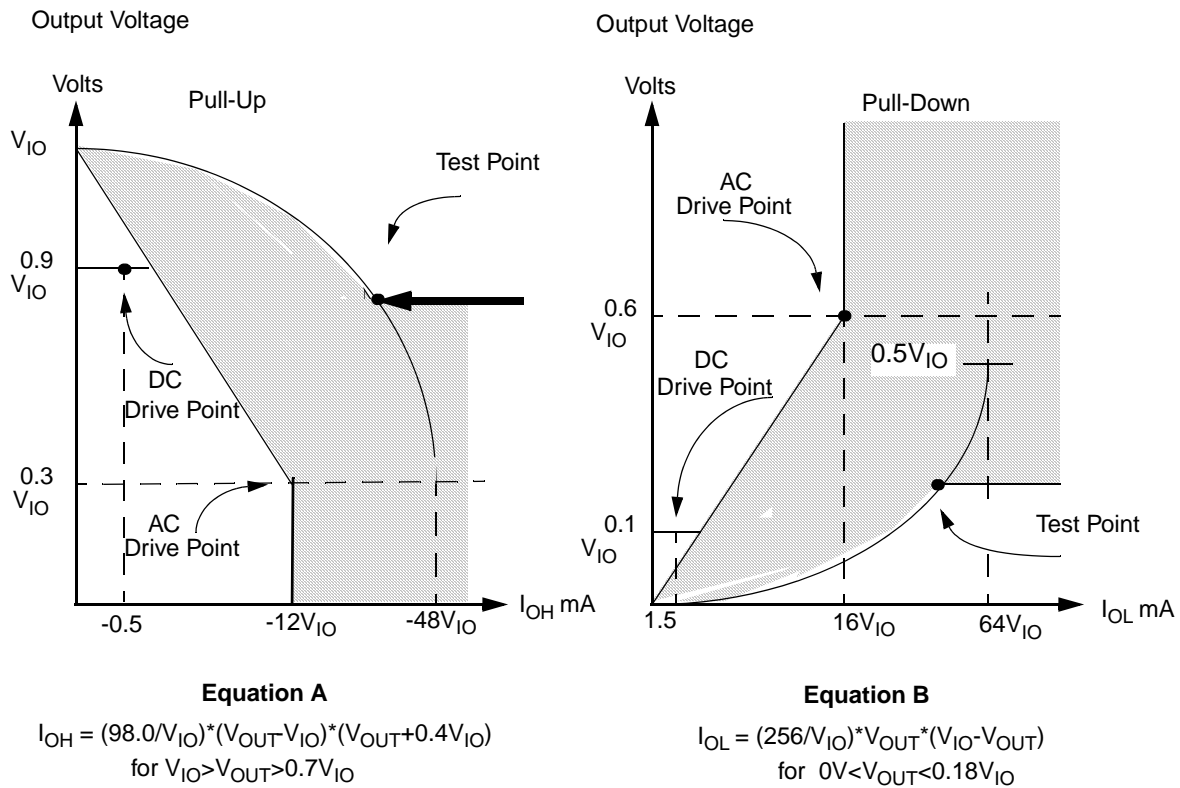

Figure 8-14. V/I Curves for PCI Output Signals
All parameters in Table 8-19 are not 100% tested. The parameters in this table are further described in Figure 8-14.
1. Refer to the V/I curves in Figure 8-14. This specification does not apply to PCICLK0, PCICLK1, and PCIRST# which are system outputs.
2. Maximum current requirements are met when drivers pull beyond the first step voltage. Equations which define these maximum values (A and B) are provided with relevant diagrams in Figure 8-14. These maximum values are guaranteed by design.